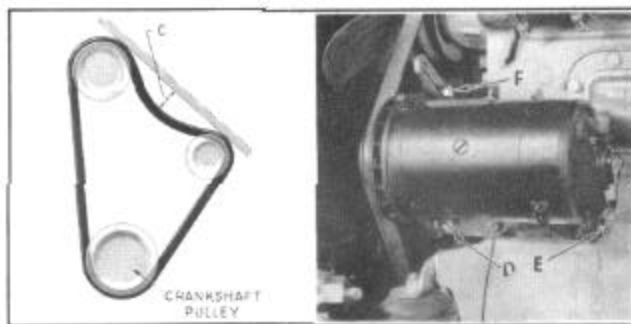

FIGURE 6
1. Loosen the two generator bracket bolt nuts (D) and (E) and adjusting arm bolt (F), Figure 6.